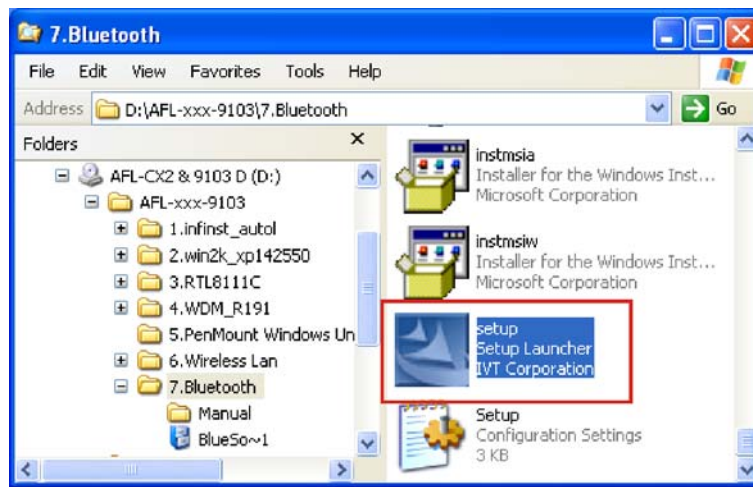

Figure 6-39: Bluetooth Setup
Step 2: A browser window opens (Figure 6-39).
Step 3: Double-click the **setup** icon to start the installation wizard (Figure 6-39).